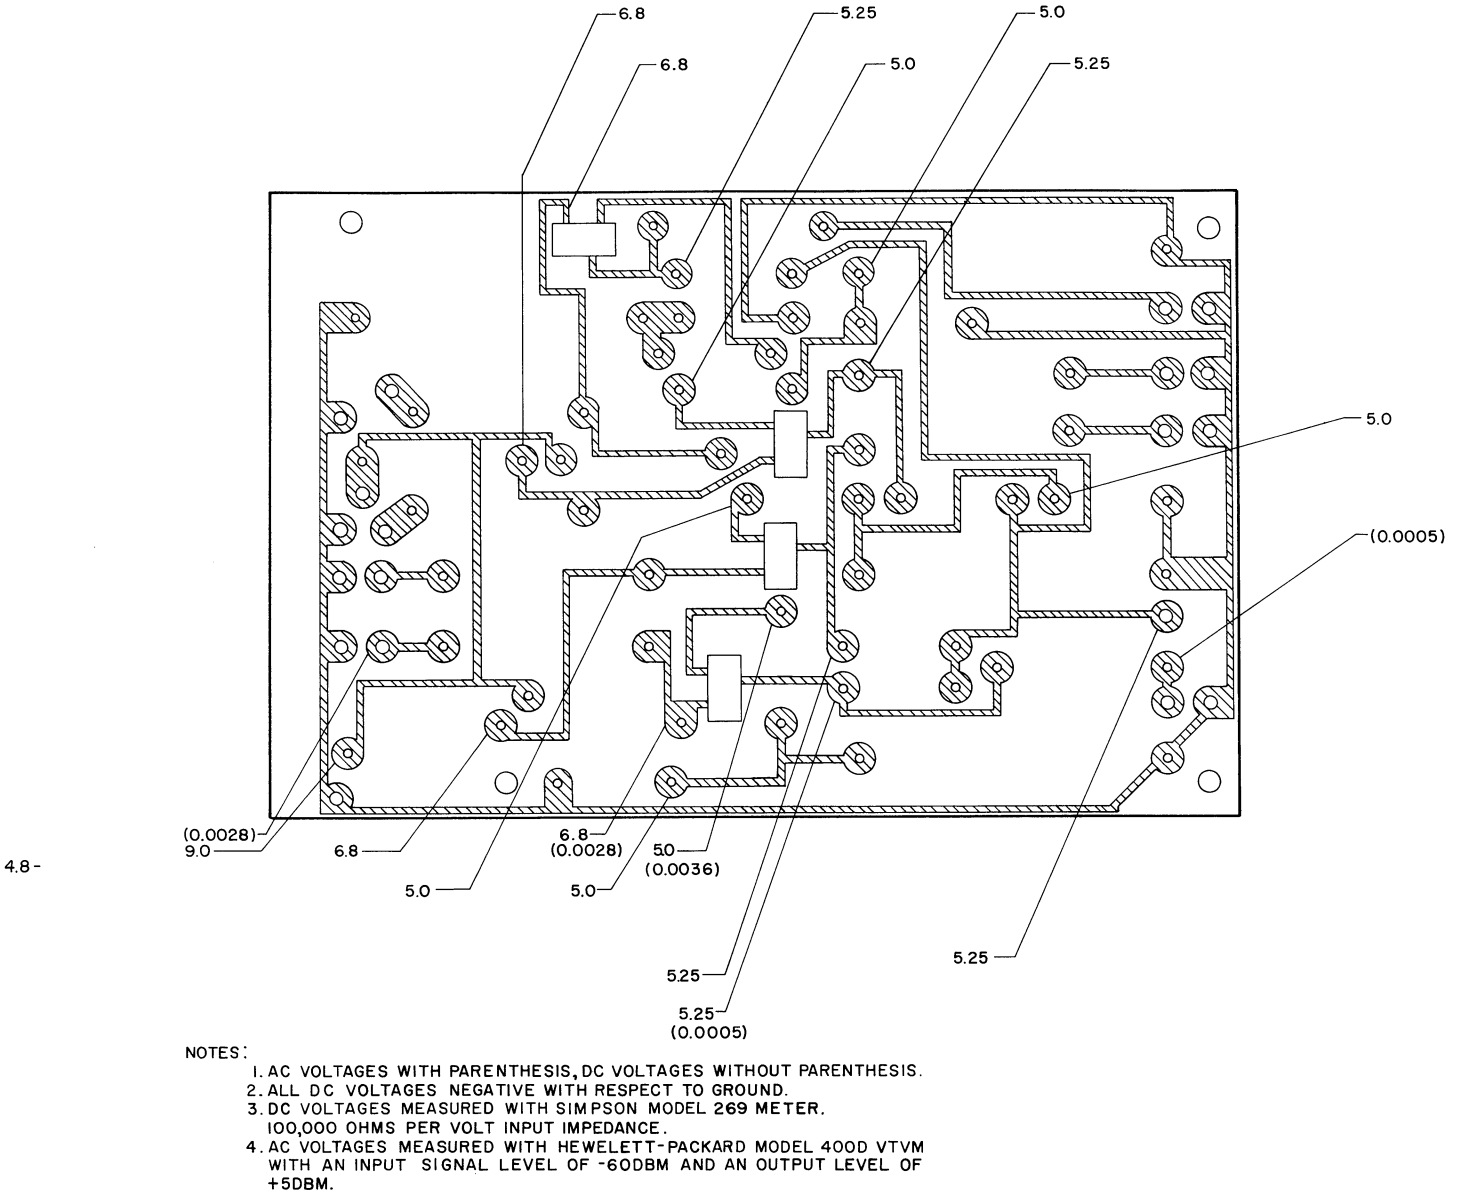

Figure 5-1. Voltage Measurements, Preamplifier Board
5.4 Resistance and Voltage Measurements. (Refer to figures 5-1, 5-2, and 5-3.)